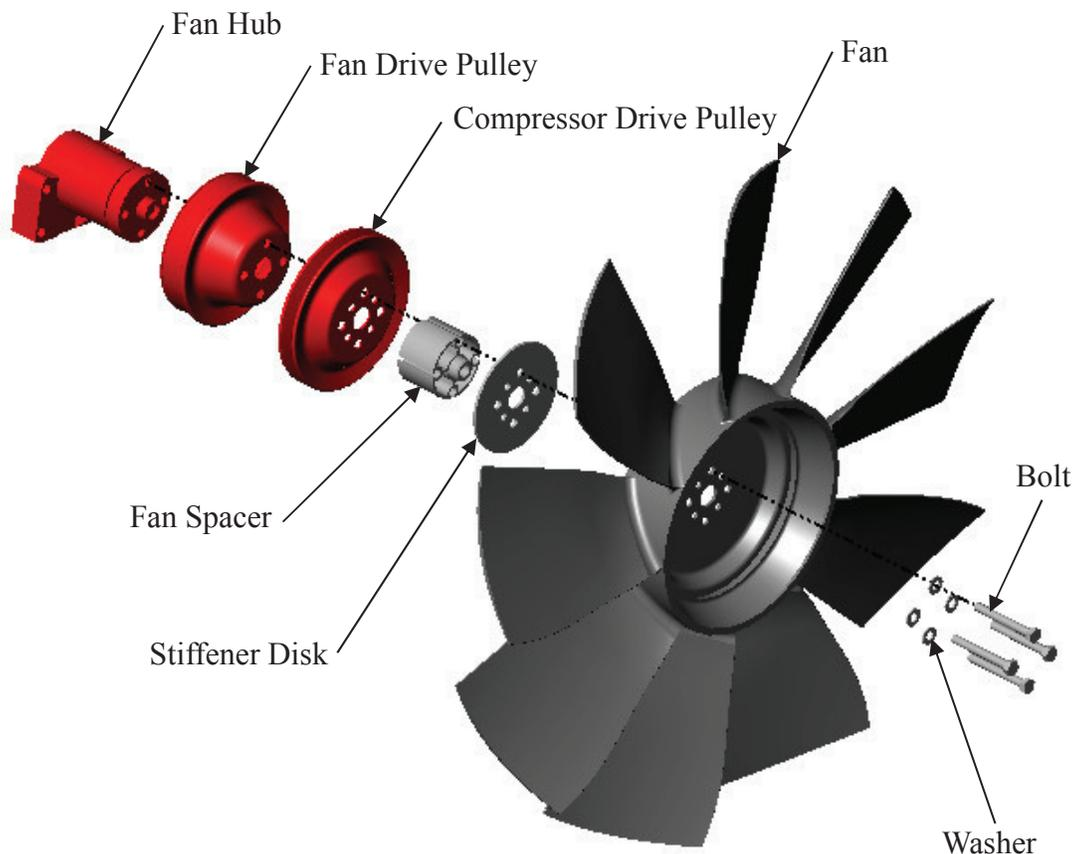

FIG. 3-1
9. Using the headless bolt as a temporary alignment guide; slide the fan drive pulley, compressor drive pulley, fan spacer, stiffener disk and fan onto the hub. Refer to FIG. 3-1.